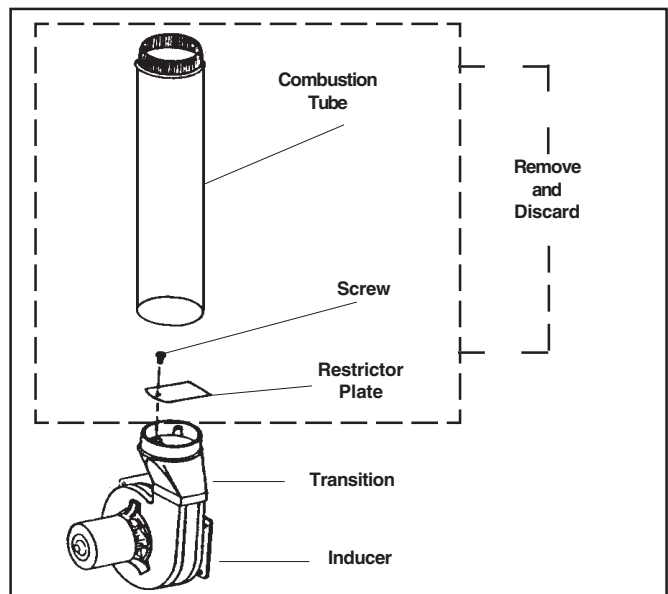

Figure 17. *RK Horizontal Vent Modification
- To gain access to the restrictor plate, remove and discard the combustion tube from the transition assembly. **Insure the seal between inducer and transition assembly is not broken.** (See Figure 17.)
- Remove and discard the restrictor plate and screw from the transition assembly. (See Figure 17.)